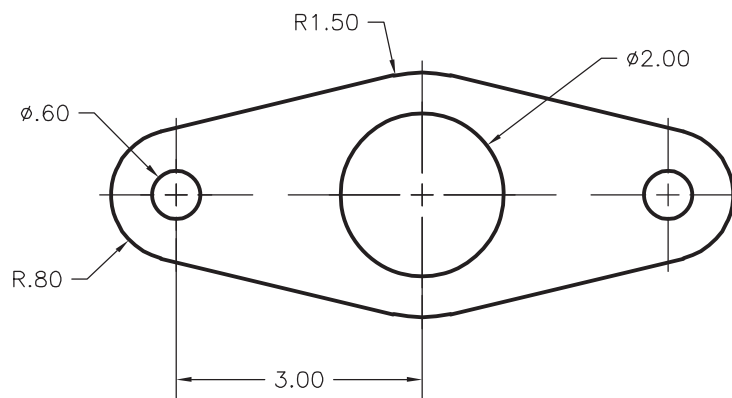

Fig. 13-10
2. Draw the gasket shown in Fig. 13-10. Do not dimension it. Use construction lines for center lines and erase them when the drawing is complete. Are you sure the 1.5 radius is in fact a radius? Use the **ZOOM** command to find out. Use the **ZOOM** command to find out. One way to create this drawing is to draw two R.8 circles and one R1.50 circle and locate the four lines with the **Tangent** object snap. You can then erase the circles and use the **ARC** command to connect the lines. When you have finished the drawing, use the **ZOOM** command to ensure that the intersections between lines and arcs are made correctly.